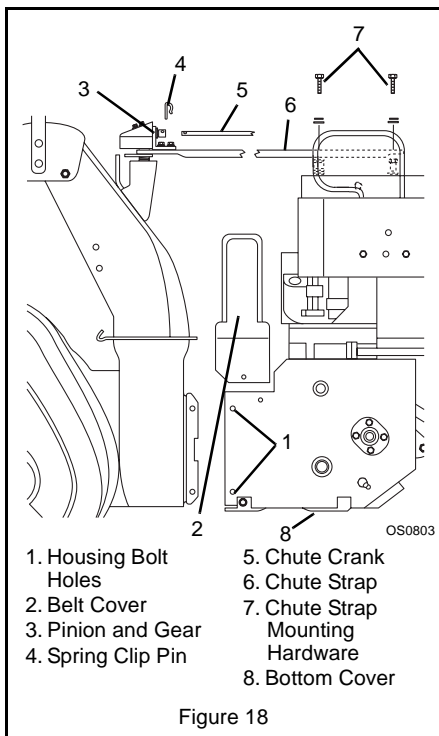

Figure 18
(Figures 18 and 19)
**NOTE:** Housing and frame must be tipped apart and attachment drive belt removed from engine sheave in order to change traction drive belt (Figures 18 and 19).